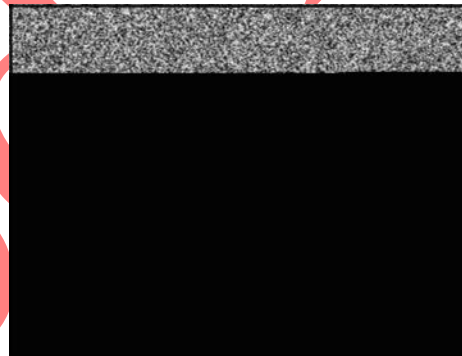

Figure 19
1. If replacing seals, install with sealing lip (A, Figure 19) toward engine side of gear case (B) or cover (C) until seal is flush with gear case or cover.